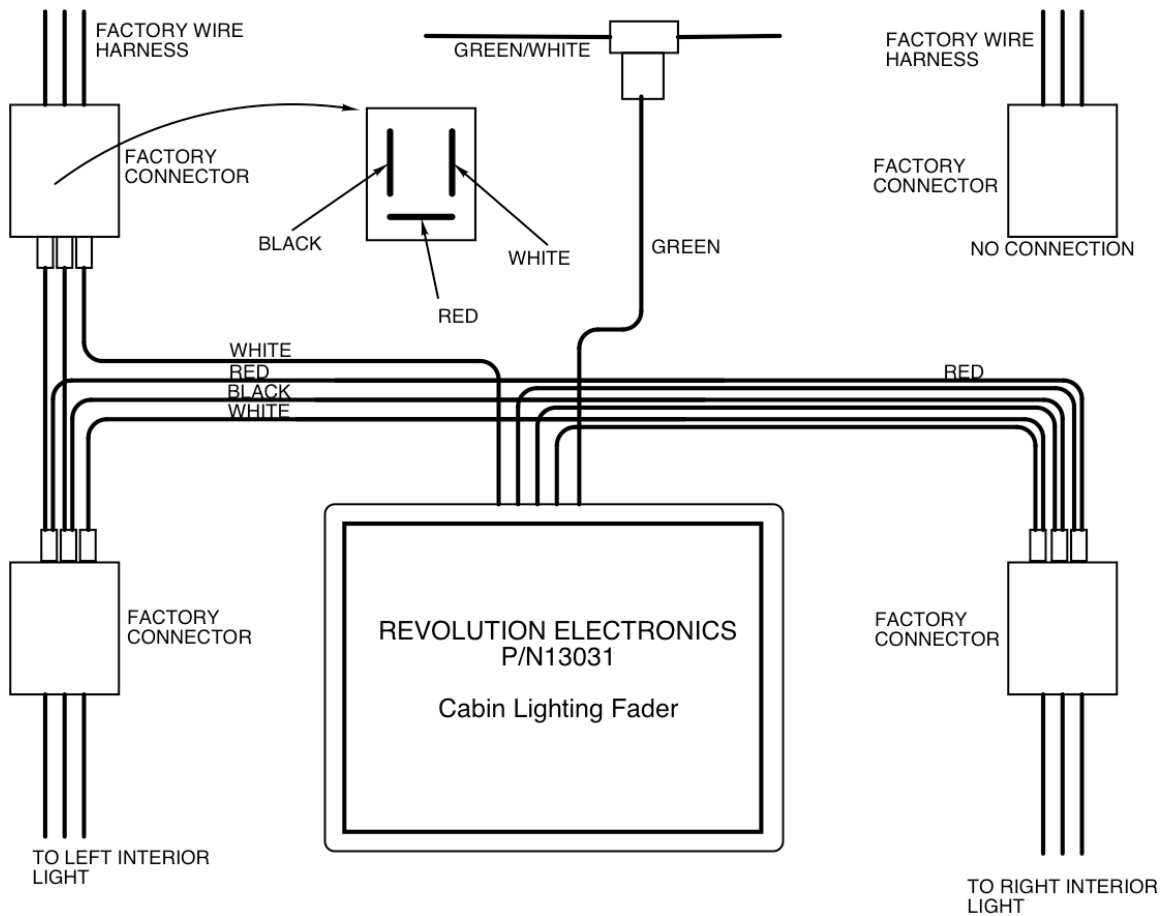

Figure 1
2. Referring to Figure 1 above, connect the red, black, and white wires to the right (passenger side) interior light unit. Reinstall the lighting unit into the dash.
5. Connect the red, green, and black wires with male spade connectors to the appropriate wires in the factory harness (see detail at top of figure 1).